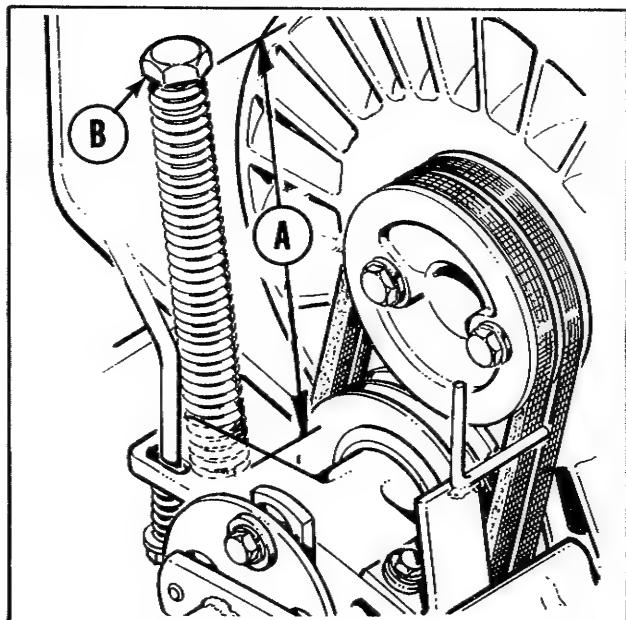
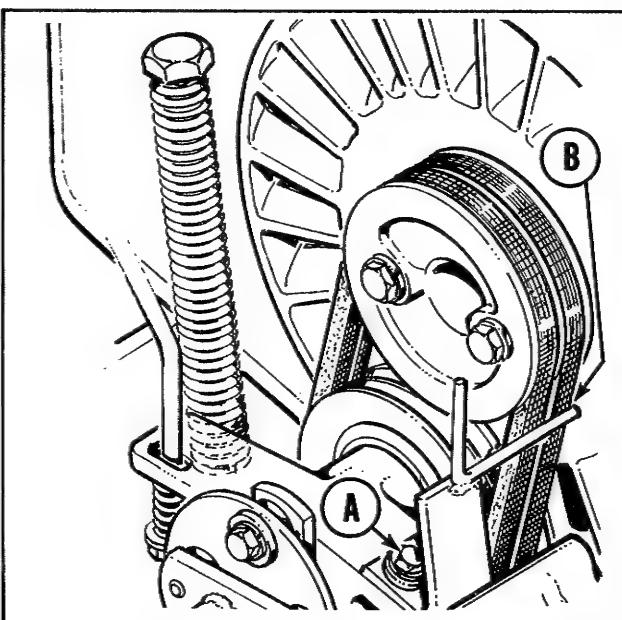

Figure 7. Traction clutch belts located under oil cooler.
Figure 9. Belt stop located under oil cooler.
See figure 7. The clutch (drive belt) tension is determined by the distance from the casting at the base of the clutch tension spring to the top of the spring. This distance (A) shown in figure 7 should be 8 inches. As the belts wear, this distance may increase, causing tension on the belts to decrease and allowing them to slip. To adjust the main drive belt tension, proceed as follows:
4. Use a ruler or tape graduated in inches to measure the distance (A) from the casting surface to the top of the spring as shown in figure 7.
5. If the spring height (A) is greater than 8 inches, turn the hexagon nut (B) above the spring clockwise until the distance is 8 inches. If the height is less than 8 inches turn the hexagon nut counter-clockwise.
6. The belt stop (figure 9) should be adjusted whenever the traction clutch belt tension is adjusted or if the clutch does not disengage completely when the clutch pedal is depressed. Using a 1/2" wrench, loosen the capscrew (A) and adjust the belt stop (B) so there is 1/16" clearance between the belt stop and each belt when the clutch pedal is released. Tighten the capscrew securely.